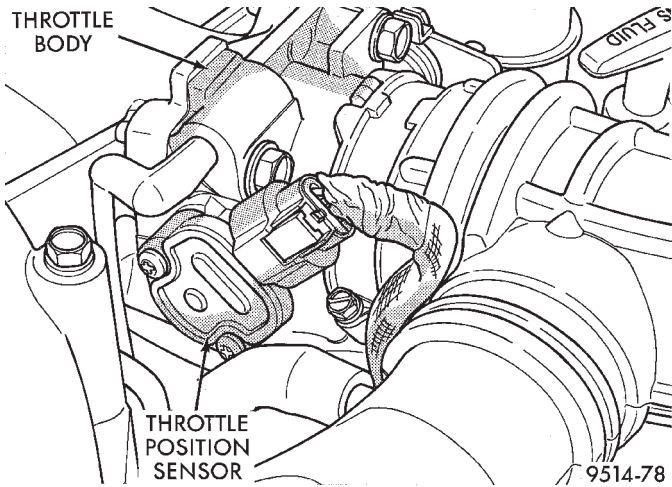
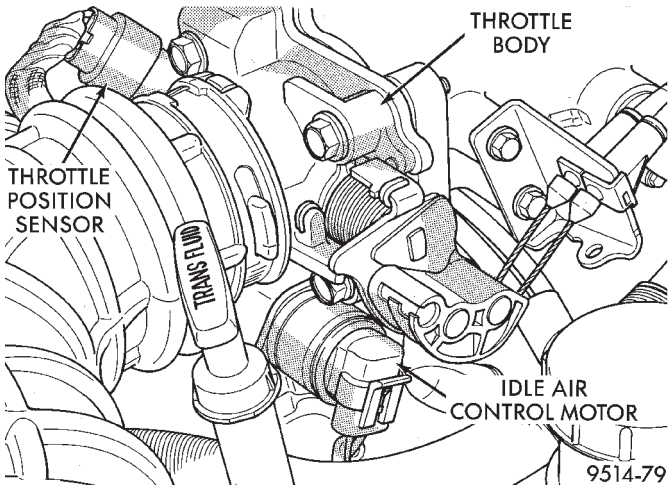

Fig. 38 Throttle Position Sensor
Fig. 39 Idle Air Control Motor
- (5) Loosen throttle body air inlet hose clamp.
- (6) Release snaps holding air cleaner housing cover to housing.
- (7) Remove air cleaner cover and inlet hoses from engine.
- (8) Unplug TPS and idle air control motor connectors (Fig. 38) and (Fig. 39).